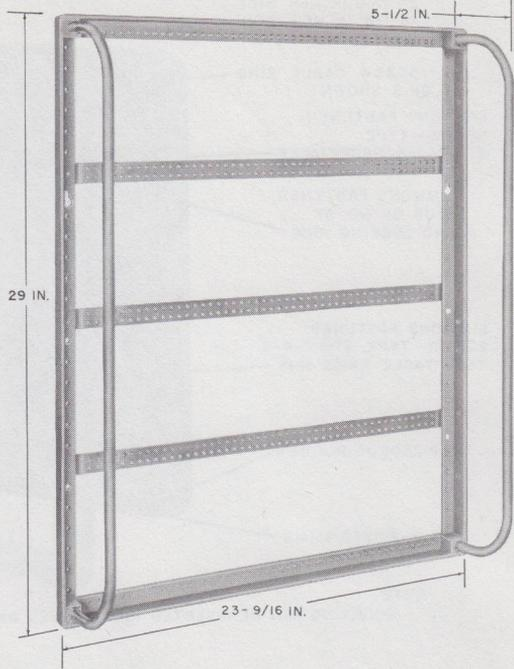

Fig. 8—26A Apparatus Mounting
2.08 The 26A apparatus mounting (Fig. 8) is a metal framework primarily used for panel-type 200-series KTUs. It is approximately twice the size of the 16-type apparatus mountings. The 26A may be mounted as follows: